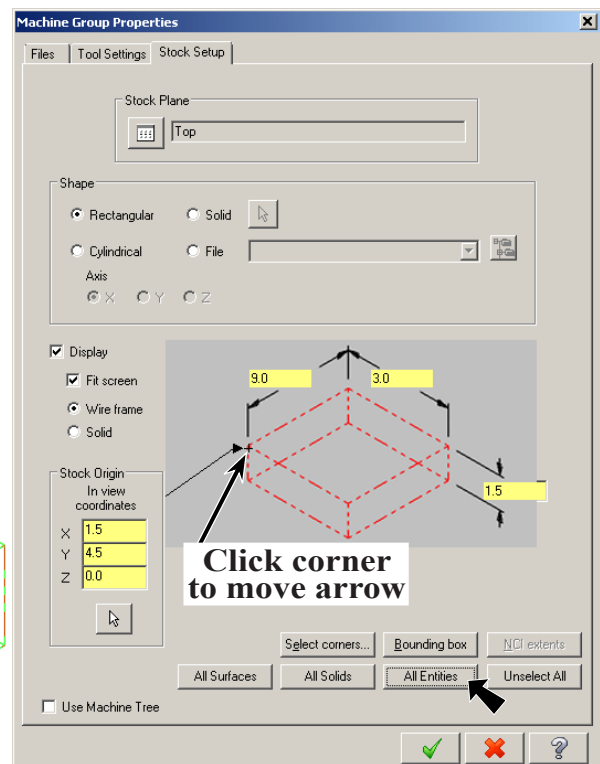

Fig. 2
Step 6. Click **left front top corner of the stock** to move the origin, **Fig. 2**. After you click corner the arrow will point to corner.
Step 7. Click **All Entities** box button in the Stock Setup dialog box, **Fig. 2**.
Step 8. Click OK  in the Machine Group Properties, **Fig. 2**.